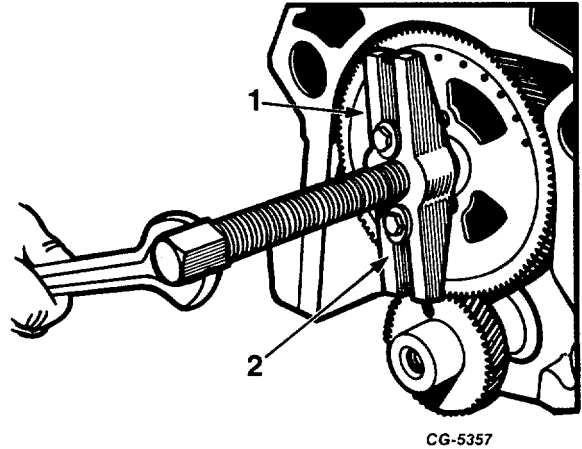

Fig. 64
b. Remove camshaft gear using SE-1368 Puller, Figure 64.